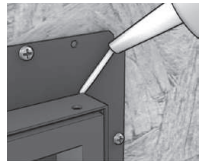

Figure 6
8. **(Required)** After fastening the window unit, apply sealant to the mitered corners of the nailfin as shown in **Figure 6**. Make sure to apply it all the way into the corner of the unit.